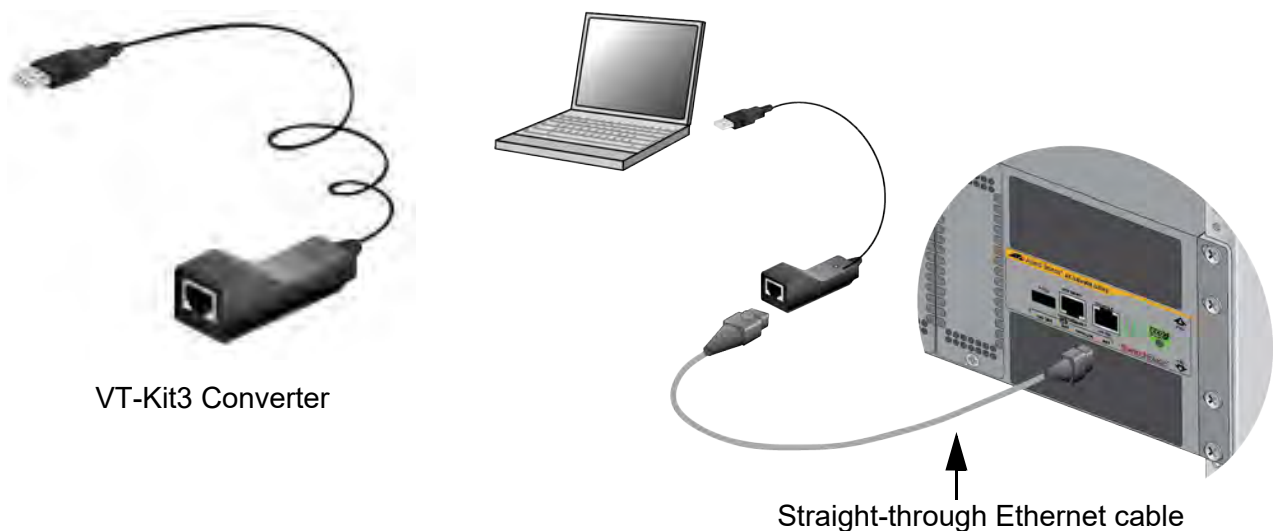

Figure 59. VT-Kit3 Converter
- ❑ If your device has a USB port, you will need a USB-to-Serial converter that is compatible with its operating system. An example is the VT-Kit3 converter from Allied Telesis. Refer to Figure 59. The converter has two connectors. One is a standard USB 3.0 connector that connects to the USB port on your computer or laptop. The other is a nine-pin female RJ-45 connector that connects to the Console port on the switch with a standard, straight-through Ethernet cable.
3. Connect your terminal, computer, or laptop to the Console port on the switch with your management cable. For an example using the VT-Kit3 management cable from Allied Telesis, refer to Figure 59 on page 109.